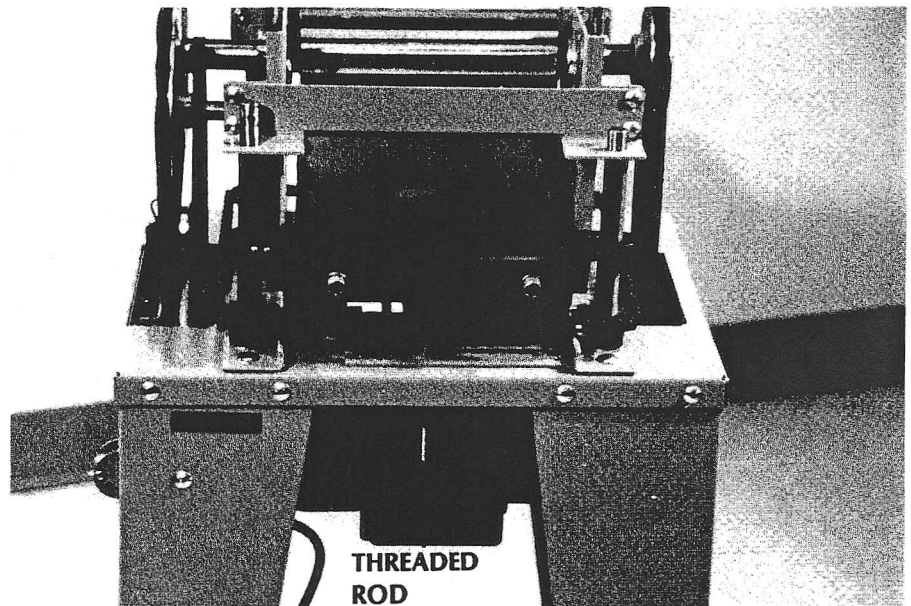

Fig. 8
2. To tighten belt, tighten nut on rod that is above RB-187 adjustment bracket. This should lower the motor adjustment bracket. (fig. 8)